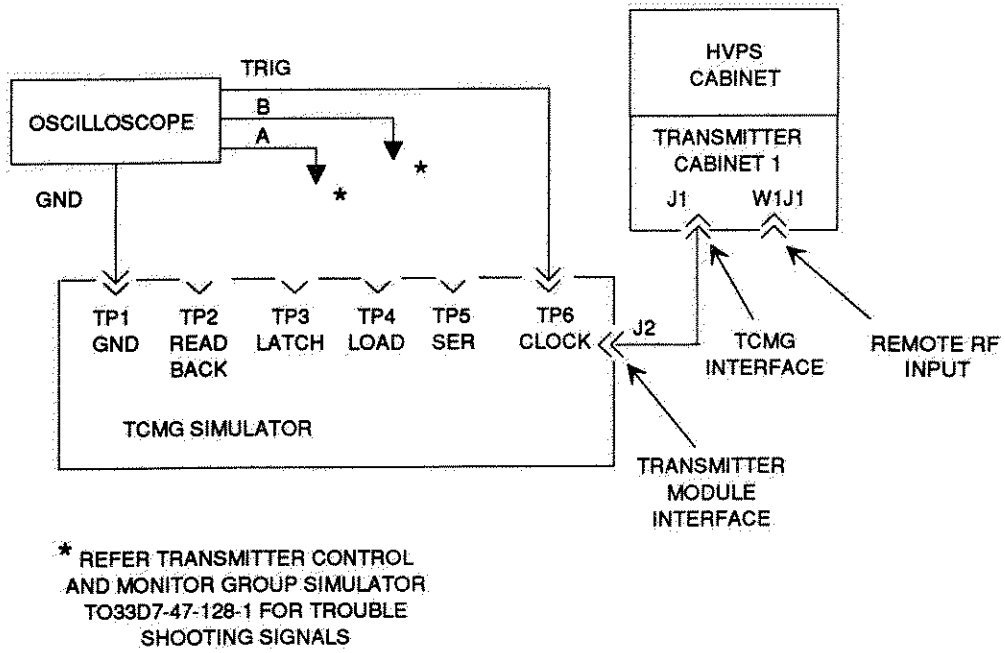

Figure 6-163. Performance Monitoring Equipment Setup
2. At the top of cabinet 1, left end, rear corner, remove cover plate from metal box. Disconnect the TCMG interface cable from jack J1. Set up the TCMG Simulator as per Figure 6-163 and connect TCMG simulator cable to J1. Disconnect the remote RF feed line from REMOTE RF INPUT jack W1J1 to ensure no RF excitation.
9. If there is a problem in steps 5 through 8, an oscilloscope can be used connected to TP2 through TP6 as necessary to isolate the problem. Refer to TO 33D7-47-128-1 as necessary. With oscilloscope connected as shown in Figure 6-163, measure and record: